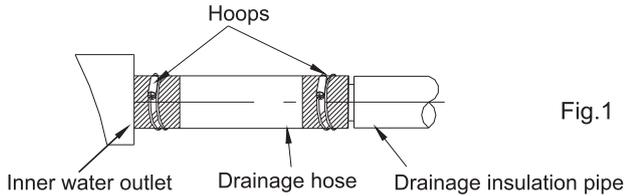

Fig.1
- a: The drainage hoses should be tightly clamped with the inner water outlet and the drainage pipe respectively, then fix with a hoop, as shown in Fig.1.